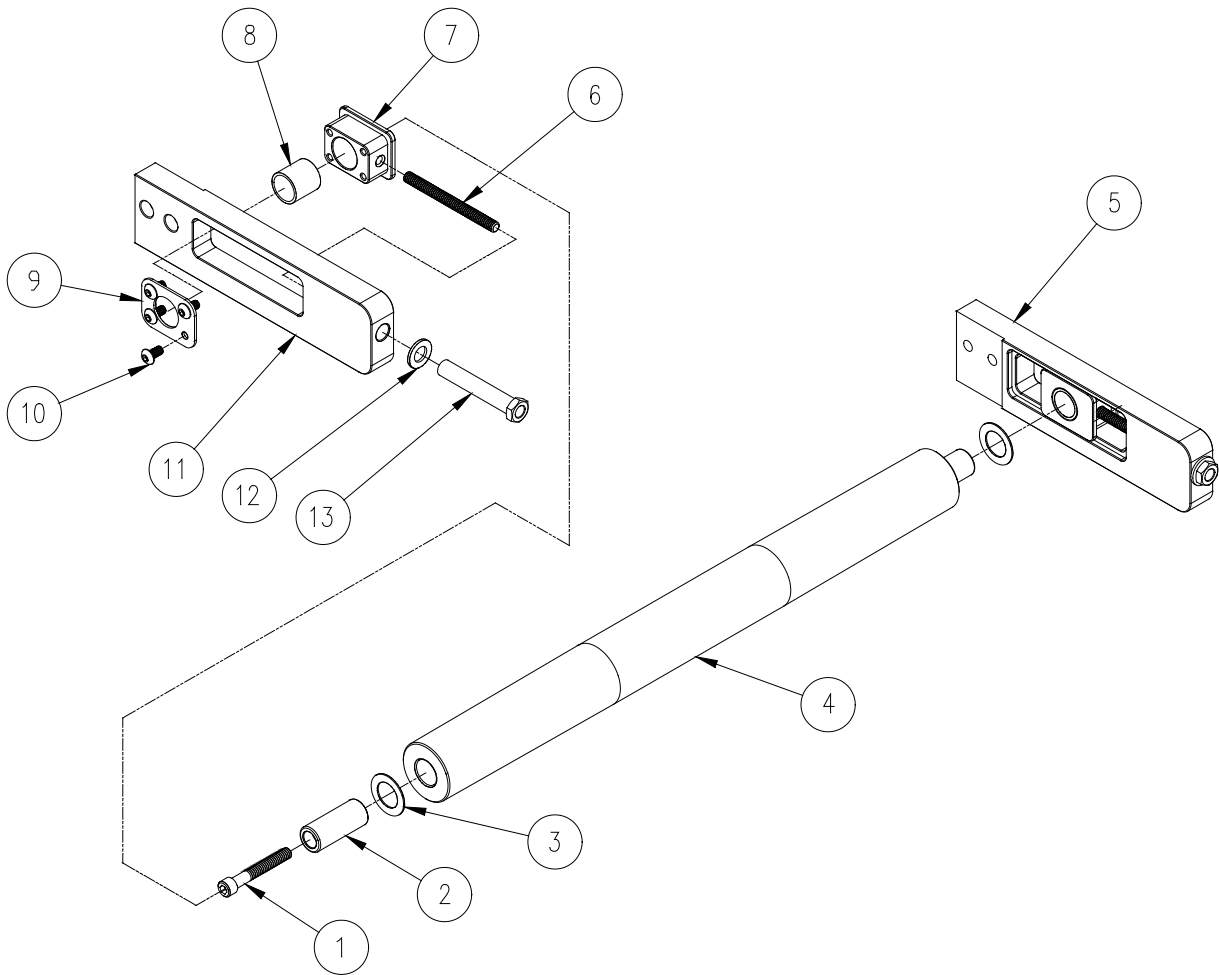

FIGURE 3. TENSION END COMPONENTS
- 3) Using a 1/2" wrench; relieve belt tension by turning the two tension adjustment nuts (item 13, fig. 3) counter-clockwise.
(REF. FIGURE 3)